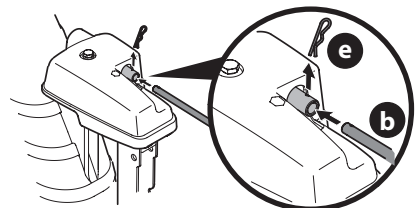

Figure 11
5. Remove hairpin clip (e) from rear of chute control head (Figure 11).
6. Insert chute control rod (b) into rear of chute control head (Figure 11) and secure with hairpin clip (e) removed in Step 5.